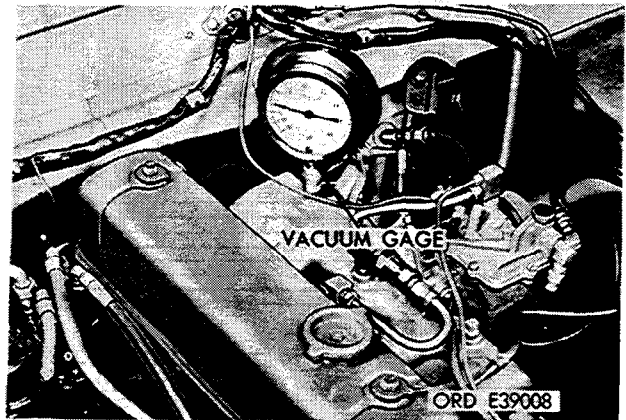

Figure 2-47. Manifold vacuum test.
*a.* Remove the pipe plug installed in the top rear of the intake manifold. Insert adapter on end of vacuum gage hose (fig. 2-47). Be sure all con-